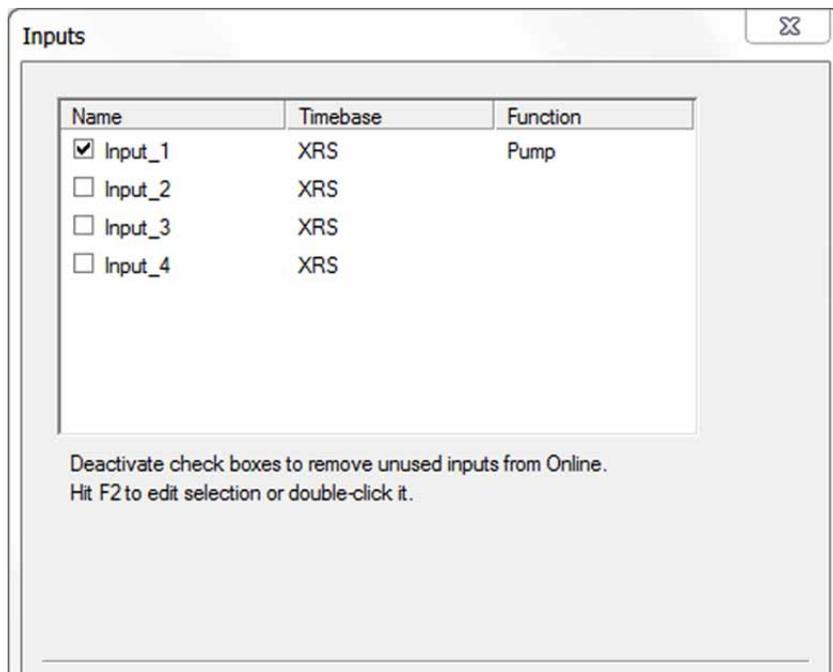

Fig. 36: Inputs page: Input_1 selected (example)
4. Click the **Inputs** page and select **Input_X** (where X = the port, to which you connected the pump). If the pump is connected to Digital I/O port 1, for example, select **Input_1** (→ Fig. 36).